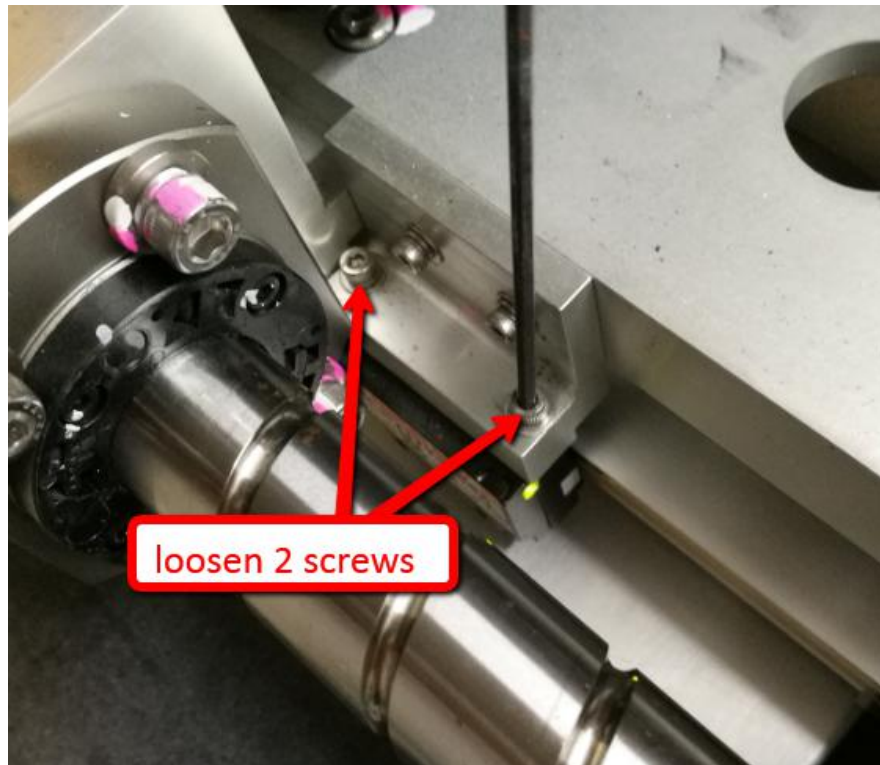

Figure 1 X axis encoder removal
2. Push X-Axis stage to right hand side and loosen 2 screws as shown in Figure 1. Remove X axis encoder.